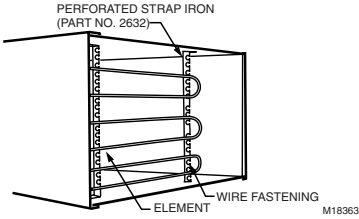

Fig. 7. Averaging element mounted in duct using perforated strap iron support.
1. Drill a large center hole for the sensing element to pass into the duct and two mounting holes for no. 8 sheet metal screws. See Fig. 7.
- Support the element firmly in the duct. Fig. 7 shows an installed element.